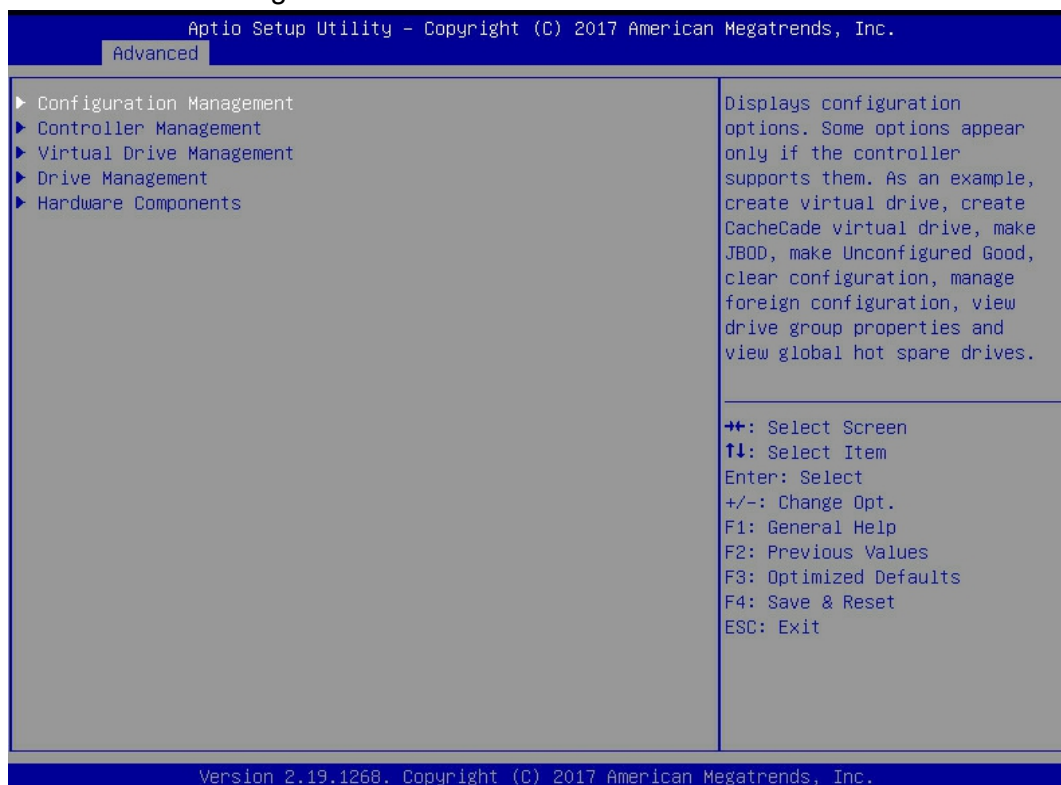

Figure 6-101
- b) As shown in figure 6-101, select configuration management in the raid card configuration interface and press enter.
✧ Figure 6-101 raid card configuration interface